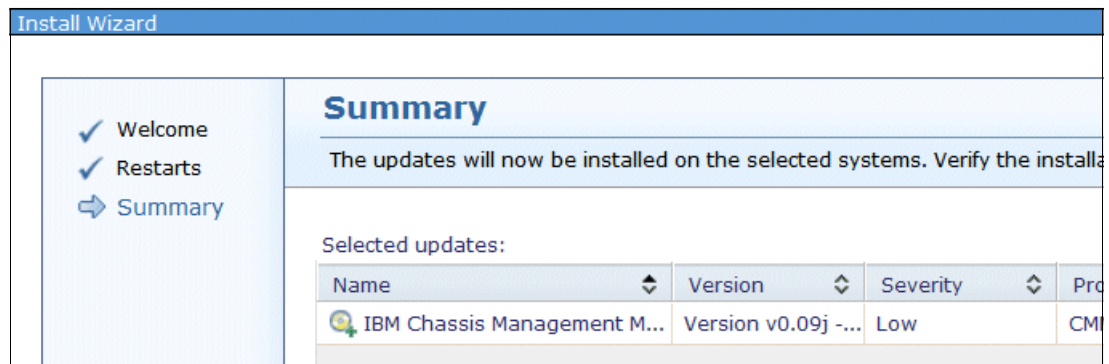

Figure 6-90 Install Wizard Summary window
3. The Summary window opens as shown in Figure 6-90. Click **Finish**.